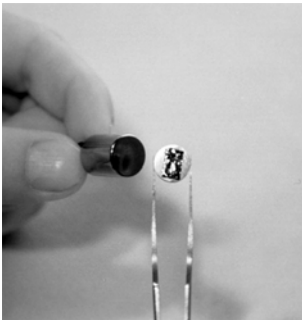

Figure 3-5: Putting the sample on the sample holder
- 2 Put the prepared sample onto the magnetic end of the sample holder using a pair of tweezers (*Figure 3-5: Putting the sample on the sample holder*).